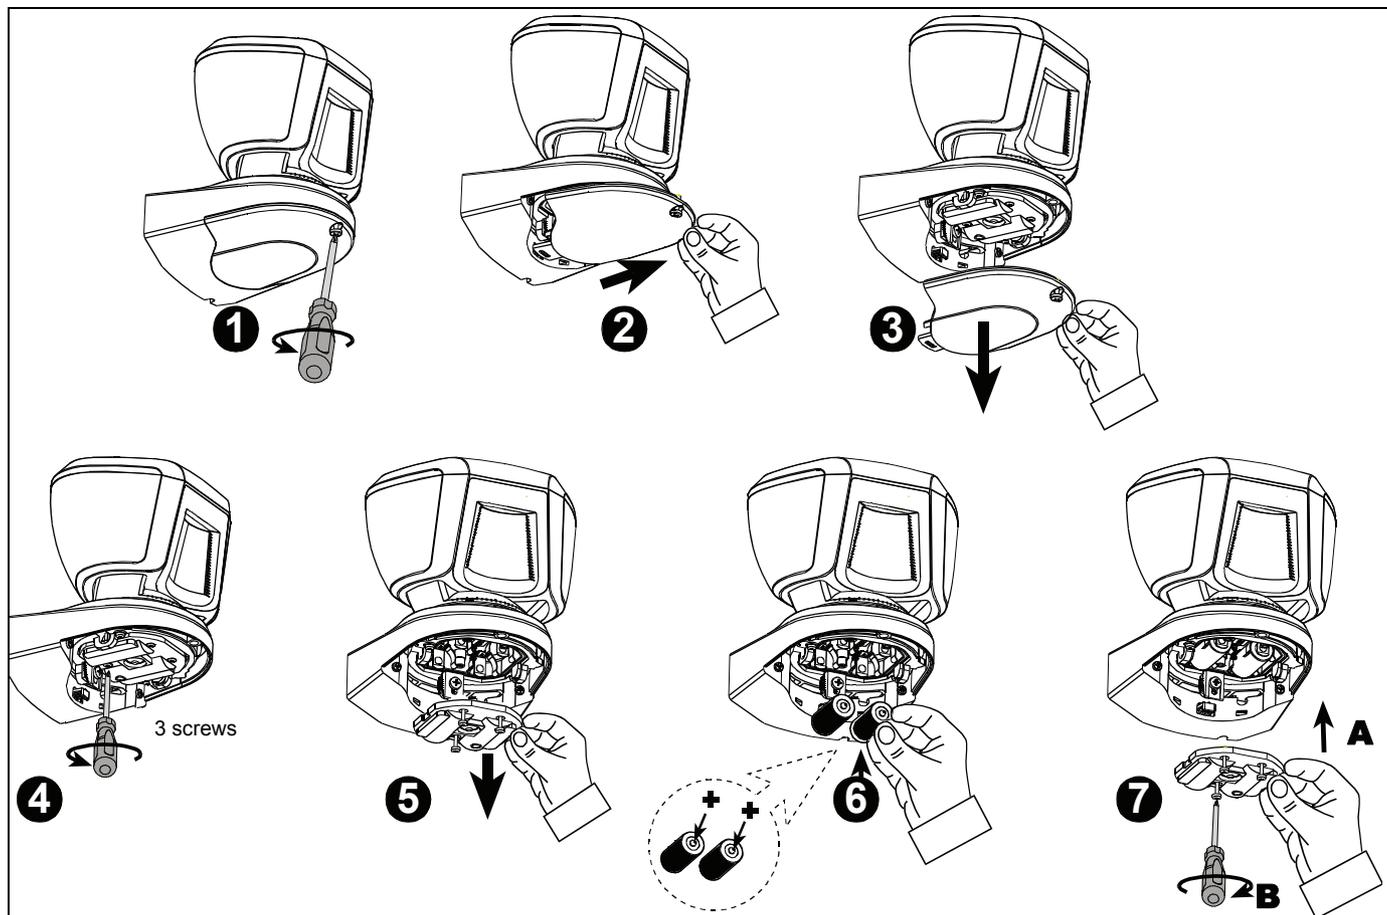

Figure 3 – Battery Insertion
Remove the 2 detector's bottom covers (see Figure 3, steps 1-5) to gain access to the DIP switches. Set the DIP switches as follows:
3.2 Battery Insertion (Figure 3)
Enroll the detectors into the alarm system's memory as described in the alarm system installer guide – ENROLLING section. When you are instructed to initiate transmission from the detector. Activate the tamper switch, i.e. open the detector bottom cover (see Fig. 3, steps 1 - 3) and then close it or remove & reinsert the batteries.
Open the detector bottom cover (see Fig. 3, steps 1 - 3) and then close it. The LED will flash for 30 seconds and then the detector will enter into 15 minutes walk-test mode.